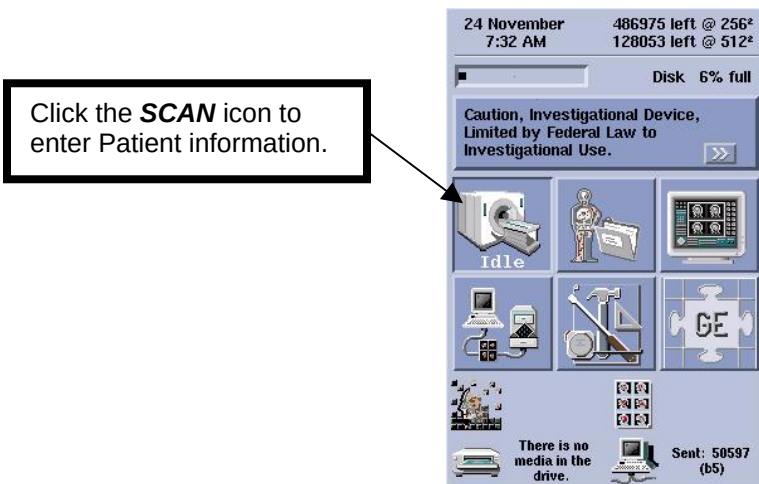

Figure 1
1. With the LVShim Phantom properly placed and land marked, the system must be configured to make the appropriate LVShim scans. Click on the Scan icon to launch the Patient Information window shown in Figure 1.
17. Now that the LVShim Phantom is properly centered, the LVShim scans can be acquired. Return to the Patient Protocol window by clicking the Scan icon shown in Figure 1.